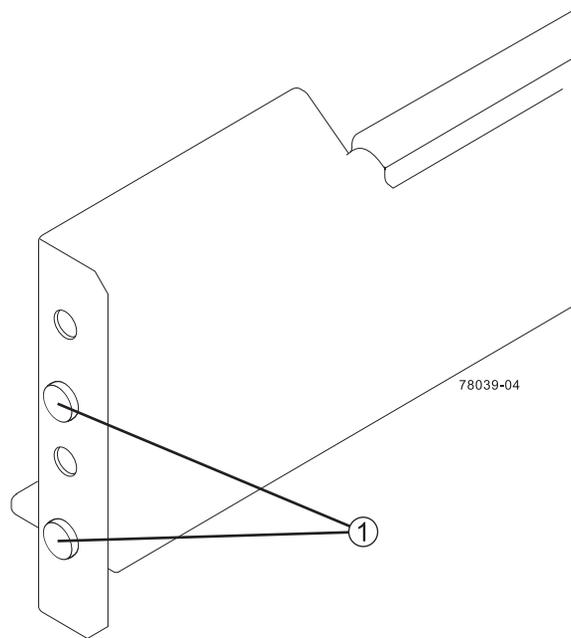

Figure 1-20 Support Rail Alignment Spacers Example
3. Make sure that the alignment spacers on the front flange fit into the mounting holes in the rack, see Figure 1-20 on page 24.